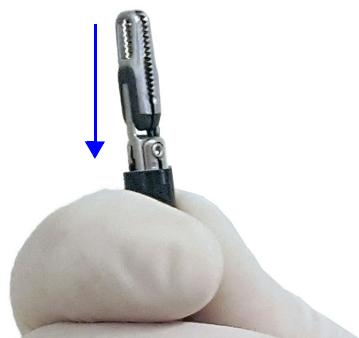

Figure 3.5 Pull sheath over the instrument tip
4. Pull the distal end of the sheath over the instrument tip (Figure 3.5).